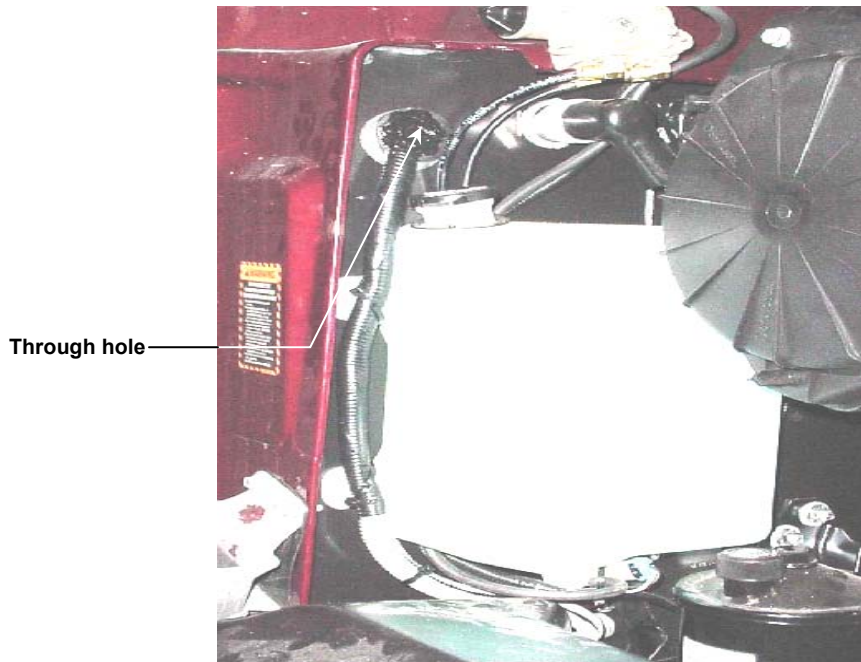

Figure 5: Details of Cable Routing
- 7 As illustrated in Figure 5, below, route the cable loom forward to the engine firewall. Secure the cables under the vehicle cab using wire ties or equivalent.
- 9 Drill a 1 1/8" hole in the firewall of the vehicle cab. This hole should be in close proximity of the vehicle's data bus connection. See Figure 5 for suggestions.